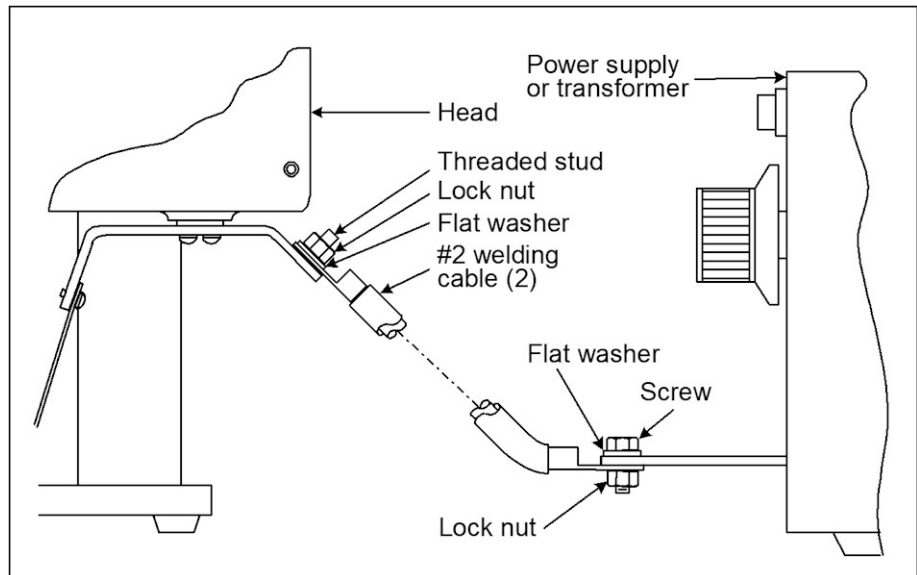

Figure 2-5. Welding Cable / Transformer Power Connections
- 1 Reference figure 2-5. Place one end of each #2 welding cable over the threaded stud found at the lower back of the head. Using the hardware supplied in the Shipping Kit, secure each cable with a flat washer and lock nut.